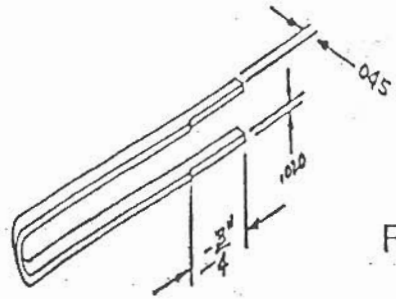

FIGURE 2
6. Disconnect yellow, black and green leads for handle insulator by using a pin extraction tool (Amp, Inc., Part No. 91136-1) or an alternate tool can be made from a "bobby pin" by flattening and clipping the ends even, then filing the width to .045" and the thickness to .020" (see Figure 2).